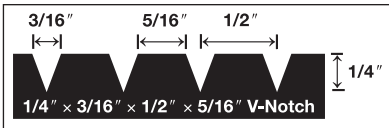

Figure 2
- 1/4" x 1/2" x 3/16" (6 mm x 13 mm x 8 mm) V-Notch trowel (Figure 2) or other adhesive manufacturer's trowel
- Spread sufficient amounts of recommended adhesive with the recommended trowel (Figure 2) in an area that can be covered in 30-60 minutes (see adhesive information).